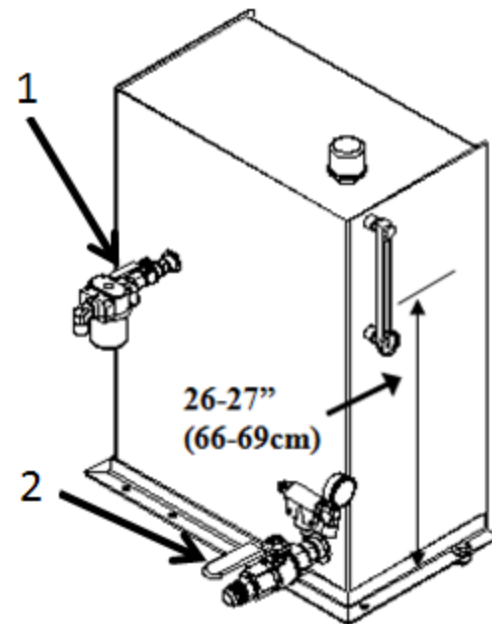

Figure 10: Hydraulic Oil Level
**4.2.2 Hydraulic Tank Oil Level and Valve Position:** Refer to section 11.0, Lubrication and Maintenance, for the service schedule and oil type. “Full Cold Line” on the decal should be at the dimension shown in Figure 10.